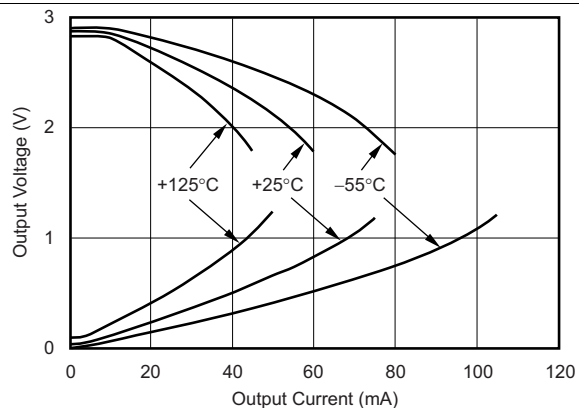
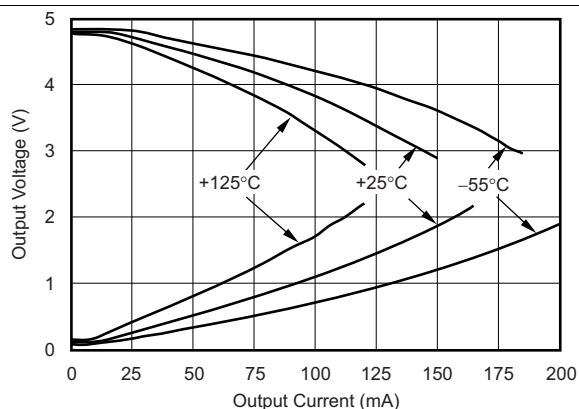

Figure 20. Output Voltage Swing vs Output Current for $V_S = 3\text{ V}$
Figure 22. Output Voltage Swing vs Output Current for $V_S = 5\text{ V}$
(1) See typical characteristic curves, *Output Voltage Swing vs Output Current* (Figure 20 and Figure 22).
(2) Specified by design.
A class AB output stage with common-source transistors is used to achieve rail-to-rail output. For high-impedance loads ($> 200 \Omega$), the output voltage swing is typically 100 mV from the supply rails. With 10- Ω loads, a useful output swing can be achieved while maintaining high open-loop gain. See the typical characteristic curves, *Output Voltage Swing vs Output Current* (Figure 20 and Figure 22).
The OPA354 output stage can supply a continuous output current of ± 100 mA and yet provide approximately 2.7 V of output swing on a 5-V supply, as shown in Figure 30. For maximum reliability, TI does not recommend running a continuous DC current in excess of ± 100 mA. Refer to the typical characteristic curves, *Output Voltage Swing vs Output Current* (Figure 20 and Figure 22). For supplying continuous output currents greater than ± 100 mA, the OPA354 may be operated in parallel, as shown in Figure 31.